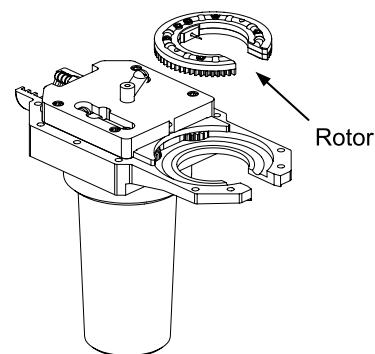

Figure 29 Removing the Rotor
7. Remove the rotor from the motor side of the weld head housing. See Figure 29.